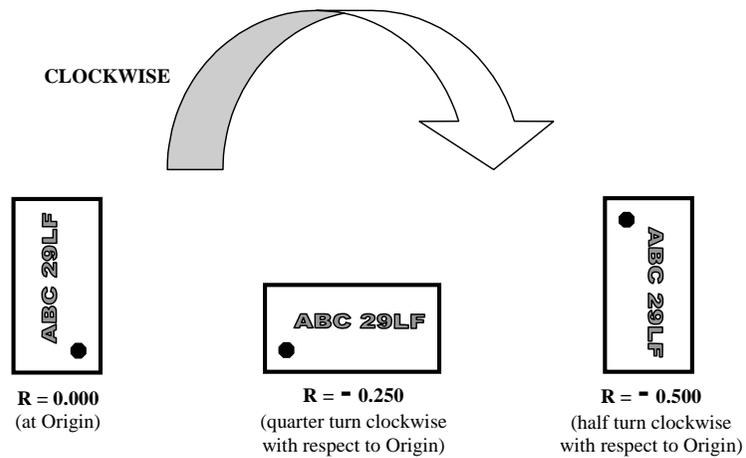
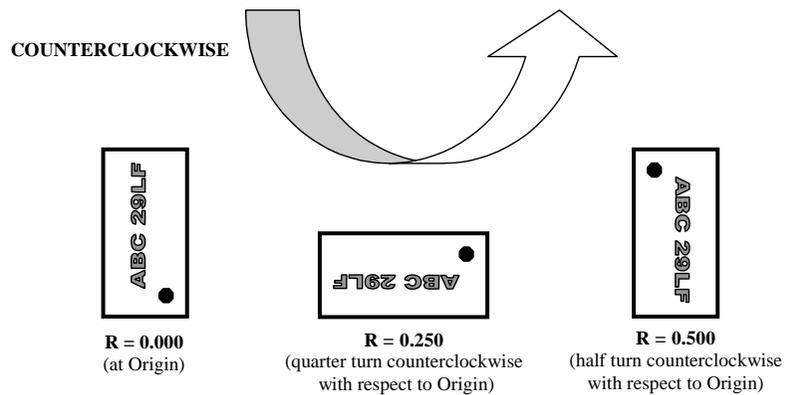

Figure 3-37—R-axis values for **CLOCKWISE** rotation
Figure 3-38—R-axis values for **COUNTERCLOCKWISE** rotation
**NOTE:** Figure 3-37 shows clockwise rotation values. Figure 3-38 shows counterclockwise rotation values.